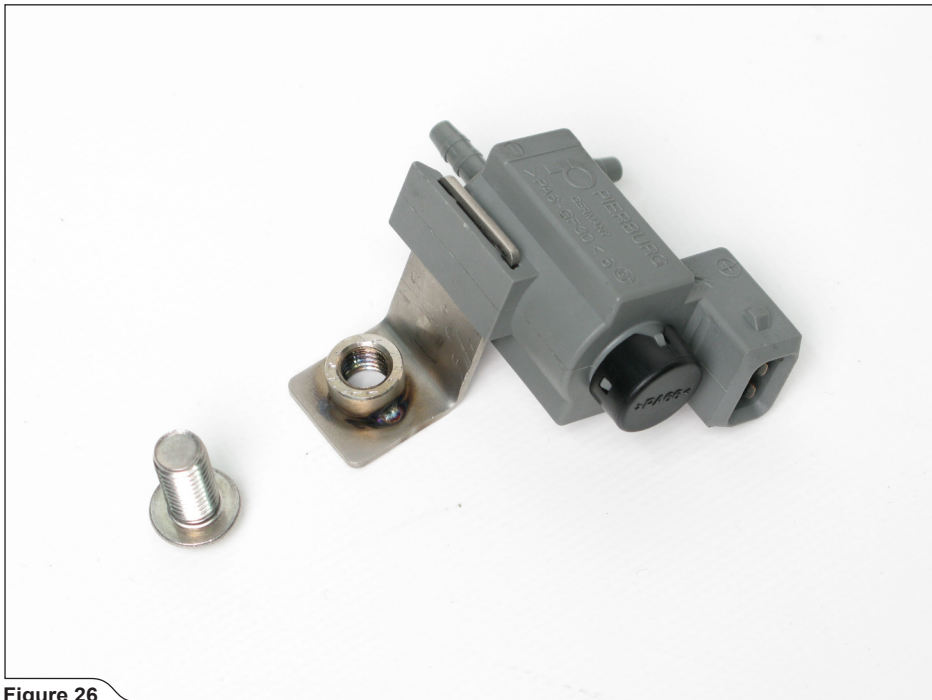

Figure 26
17. Assemble the bracket from Akrapovič installation kit onto the electromagnetic valve (**Figure 26**).